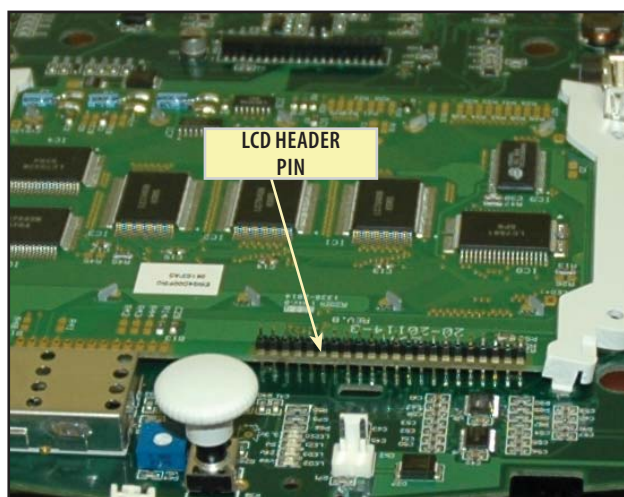

FIGURE 6.22
10. On the front side of the Control Board, pull the LCD up to release the header from the board. **See Figure 6.22.**